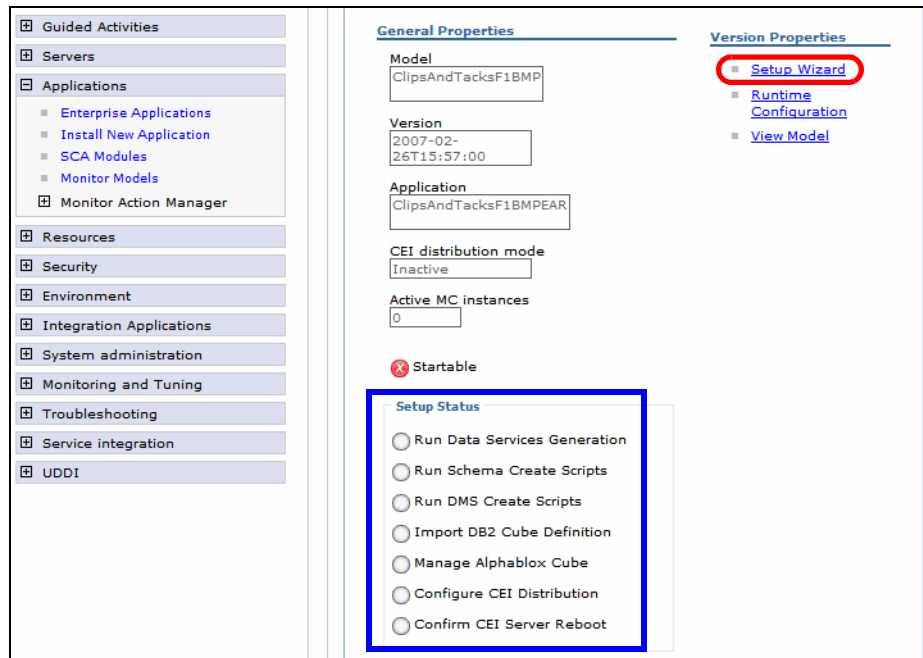

Figure 14-6 Version properties panel
- ▶ On the next page (Figure 14-6), the Setup Status in the bottom left of the panel lists the seven steps in the setup wizard. These will be marked green once completed. Underneath Version Properties, select *Setup Wizard* to launch the setup wizard.